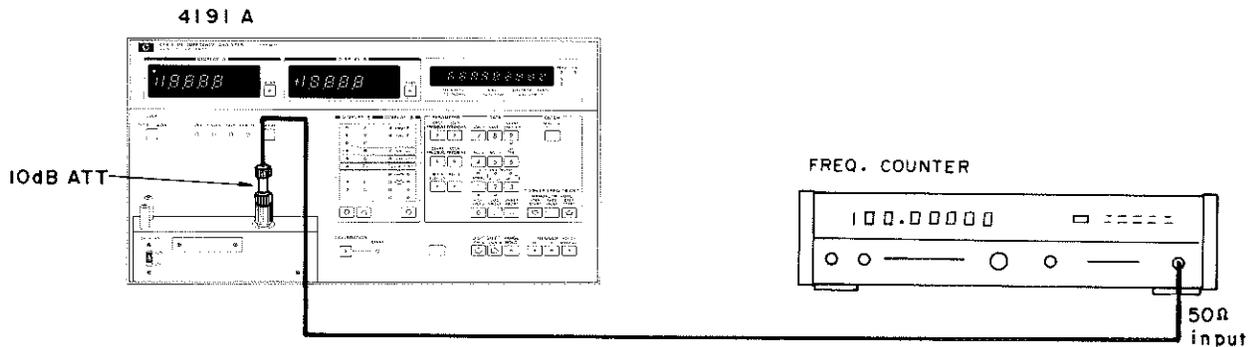

Figure 5-2. Test Signal Frequency Adjustment Setup.
3. Connect the 10dB attenuator and connection cable between the frequency counter input and the 4191A UNKNOWN connector as shown in Figure 5-2.